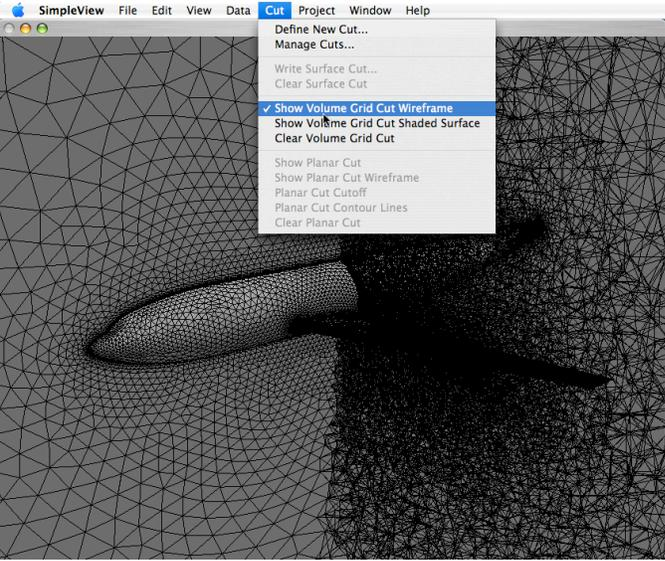

Figure 2.5.5 Displaying cuts through the volume :
6. From within the “Cut” panel, you can choose to deselect the “Show Volume Grid Cut Shaded Surface” button, which leaves the display of the wireframe view of all the cells crossing the specified plane. Alternatively, you can deselect “Show Volume Grid Cut Wireframe” if you wish to display only the shaded representation of the cells crossing the specified plane. An example of this is shown in Figure 2.5.5.